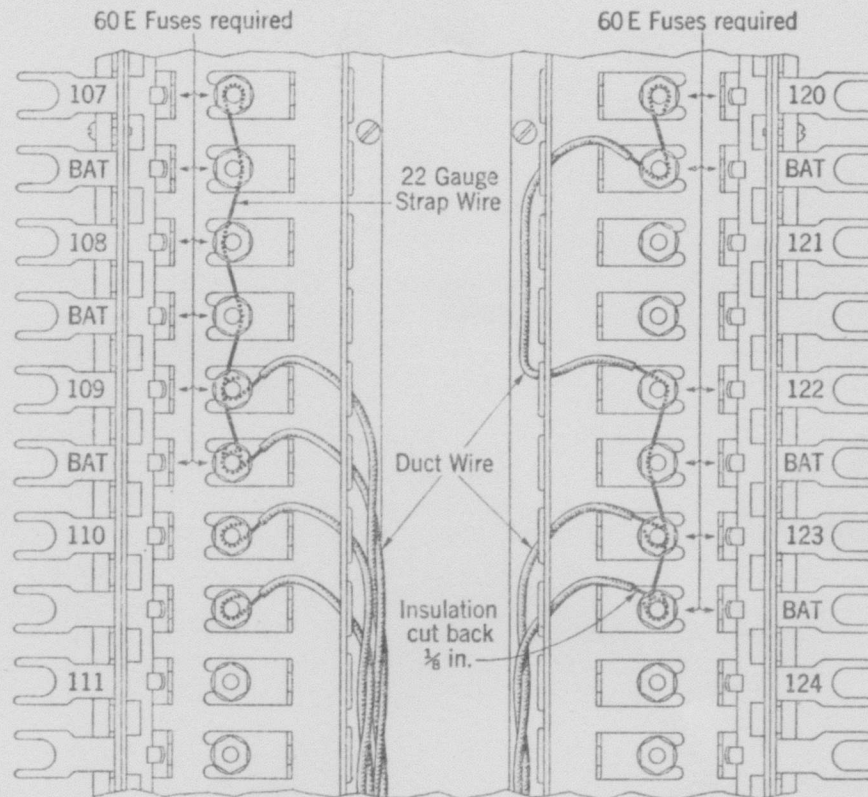

Fig. 4—Details of Terminating and Strapping in LA and LB Type Fuse Chambers.
3.04 Cut the jumper and pass the ends through the fanning strips. Skin the insulation from the ends of the jumper and terminate the jumper wires on the proper binding posts. Leave the insulation cut back about 1/8 inch from the washers on the binding posts and neatly dress back each end of the jumper to the fanning strip. In terminating the jumper on the binding posts in LA type fuse chambers the ends of the jumper should pass above the angle portion of the two-piece clip as shown in Fig. 4.
3.06 In LA and LB type fuse chambers battery feeders should be strapped together on the binding posts in the fuse chamber as shown in Fig. 4.